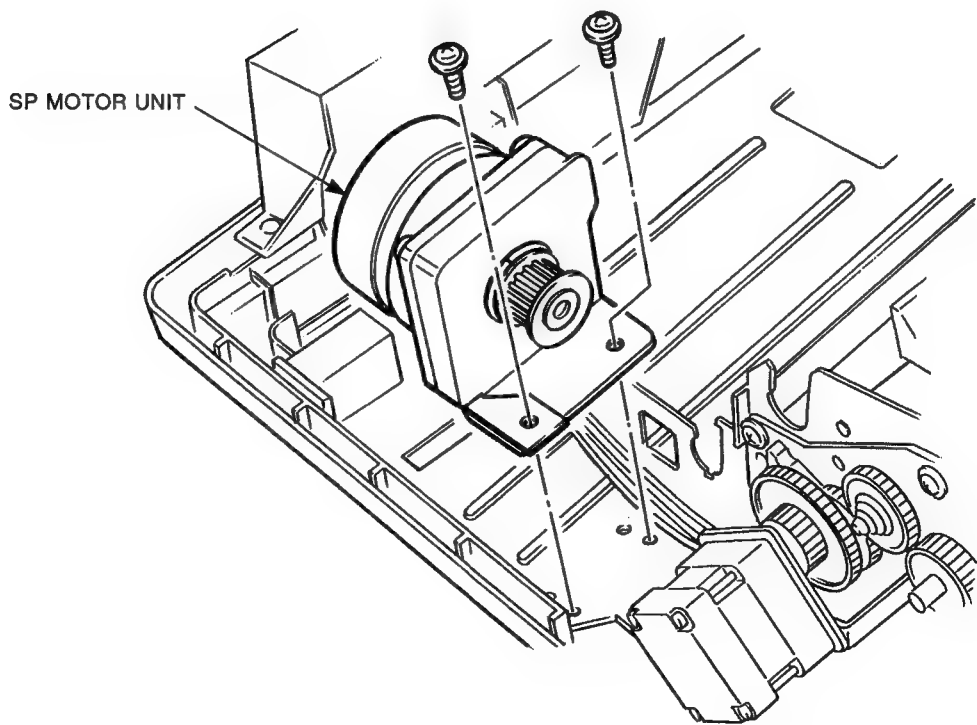

Figure 3-49 SP Motor Unit
5. Remove the two screws securing the SP motor unit to the right side frame (see Figure 3-49).
To remove the LF motor assembly, first remove the middle cover assembly, feed roller unit, the platen assembly, SP motor unit and tractor unit (see Figure 3-49). Then proceed as follows.